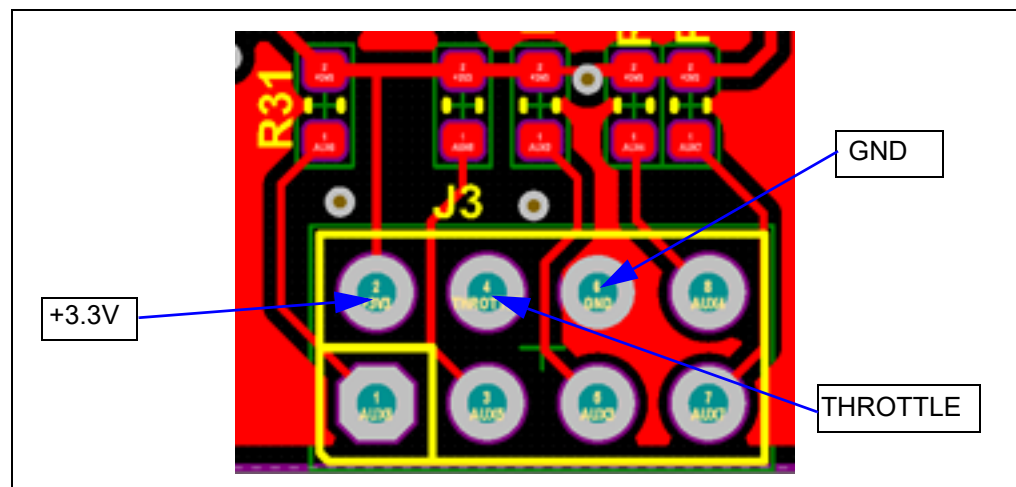

FIGURE 2-3: J3 Wire Connections to the Potentiometer.
4. Connect the potentiometer to the AUX board connector following the setup in Figure 2-3.